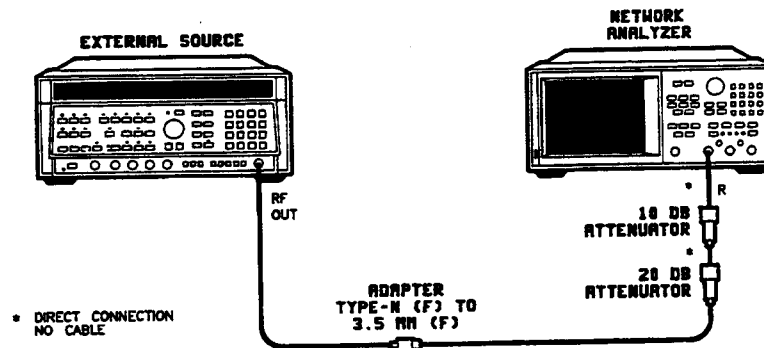

Figure 26. Minimum R Level External Source Test Setup
1. Connect the equipment as shown in Figure 26.